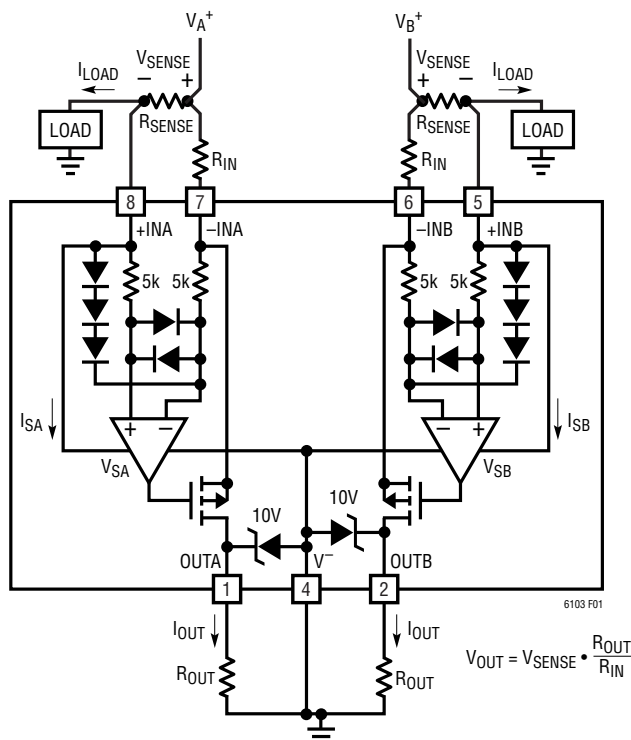

Figure 1. LTC6103 Block Diagram and Typical Connection
**-INB (Pin 6):** The Negative Input of the Internal Sense Amplifier B. The internal sense amplifier will drive -INB to the same potential as +INB. A resistor ( $R_{IN}$ ) tied from  $V_B^+$  to -INB sets the output current  $I_{OUT} = V_{SENSE} / R_{IN}$ .  $V_{SENSE}$  is the voltage developed across the external  $R_{SENSE}$  (Figure 1).
**-INA (Pin 7):** The Negative Input of the Internal Sense Amplifier A. The internal sense amplifier will drive -INA to the same potential as +INA. A resistor ( $R_{IN}$ ) tied from  $V_A^+$  to -INA sets the output current  $I_{OUT} = V_{SENSE} / R_{IN}$ .  $V_{SENSE}$  is the voltage developed across the external  $R_{SENSE}$  (Figure 1).